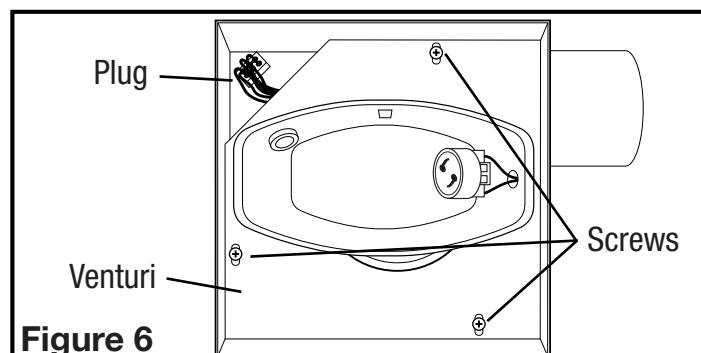
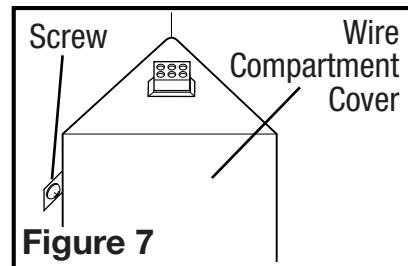

Figure 6
Figure 7
- 1b. **Internal Wire Compartment:** Remove the three screws holding the blower assembly in place and lift assembly out of housing (Figure 6). Remove the wire compartment cover screw and place the cover in a secure place (Figure 7).